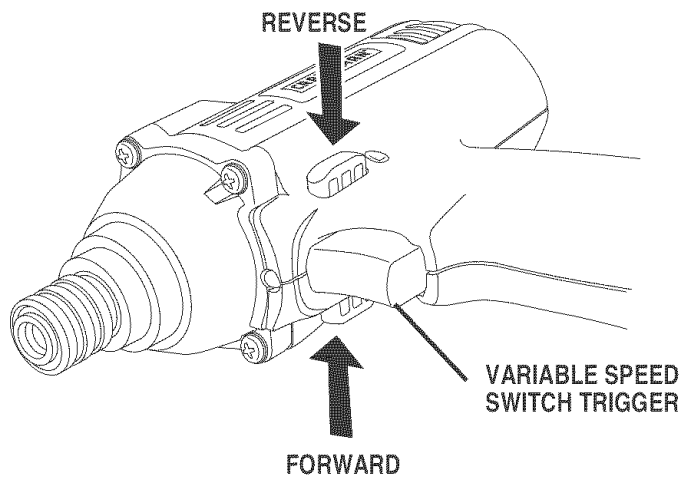

Fig. 2
See Figure 2.
- Lock switch trigger on the tool by placing the direction of rotation selector in center position. See Figure 2.
- Lock switch trigger or the drill by placing the direction of rotation selector in center position. See Figure 2.